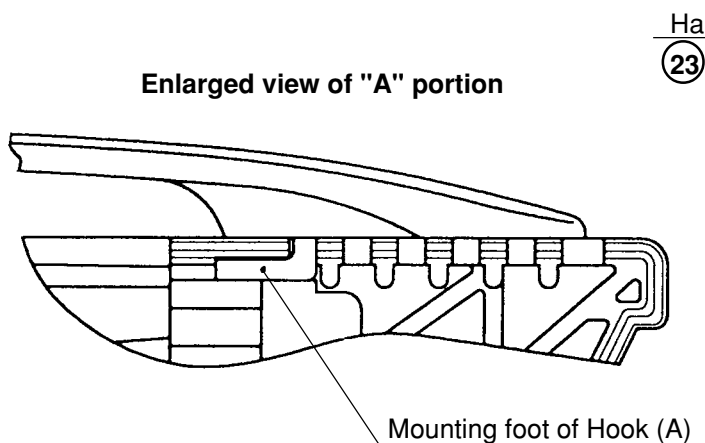

Fig. 6
- (1) Loosen the Screws (Plastic Tie) D4 x 25 **(27)** **[27]** **[27]** **<27>**, and remove the Grip Cover **(26)** **[26]** **[26]** **<26>**.
- (2) Loosen the Tapping Screws (W/Flange) D4 x 35 **(24)** **[24]** **[24]** **<24>**, Tapping Screw (W/Flange) D4 x 20 (Black) **(25)** **[25]** **[25]** **<25>**, and remove Handle (A) **(29)** **[29]** **[29]** **<29>**.
- (3) Insert the mounting foot of Hook (A) into the air vent of Handle (B) **(23)** **[23]** **[23]** **<23>** as shown in Figs. 6 and 7.
- (4) Mount Handle (A) **(29)** **[29]** **[29]** **<29>** and the Grip Cover **(26)** **[26]** **[26]** **<26>**.